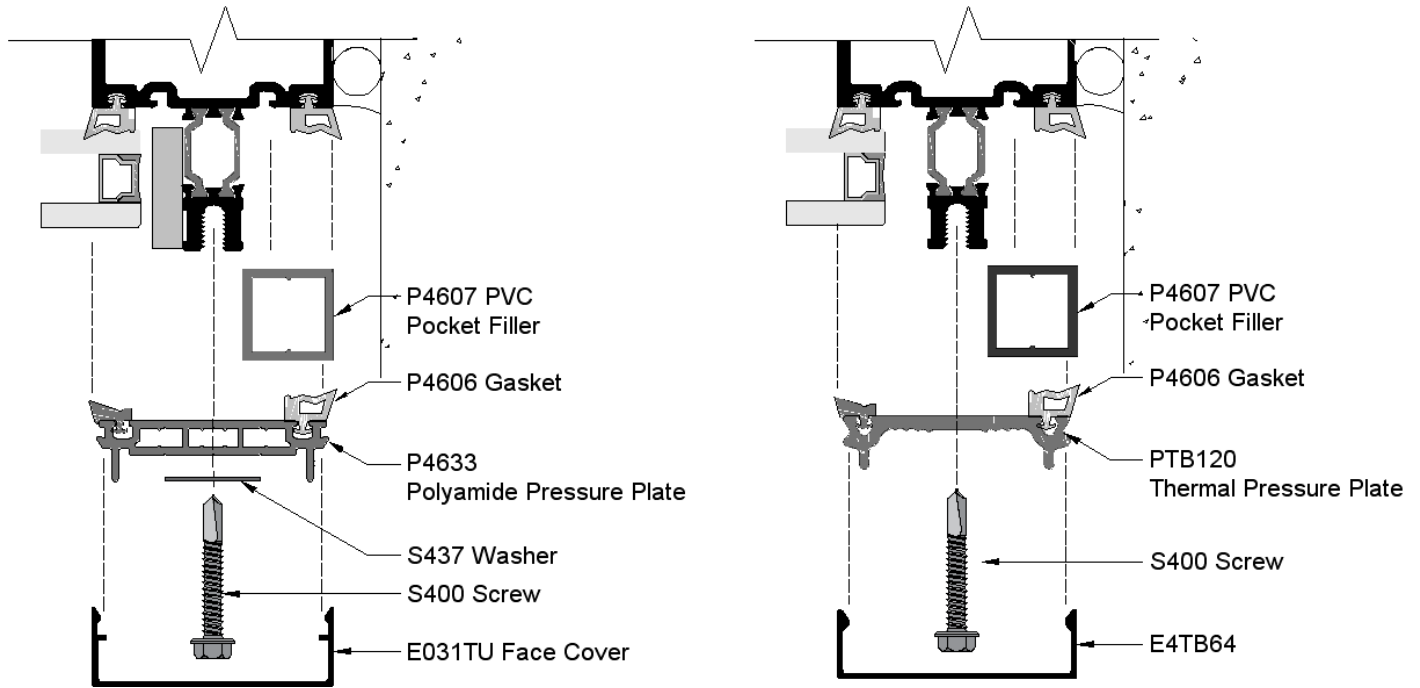
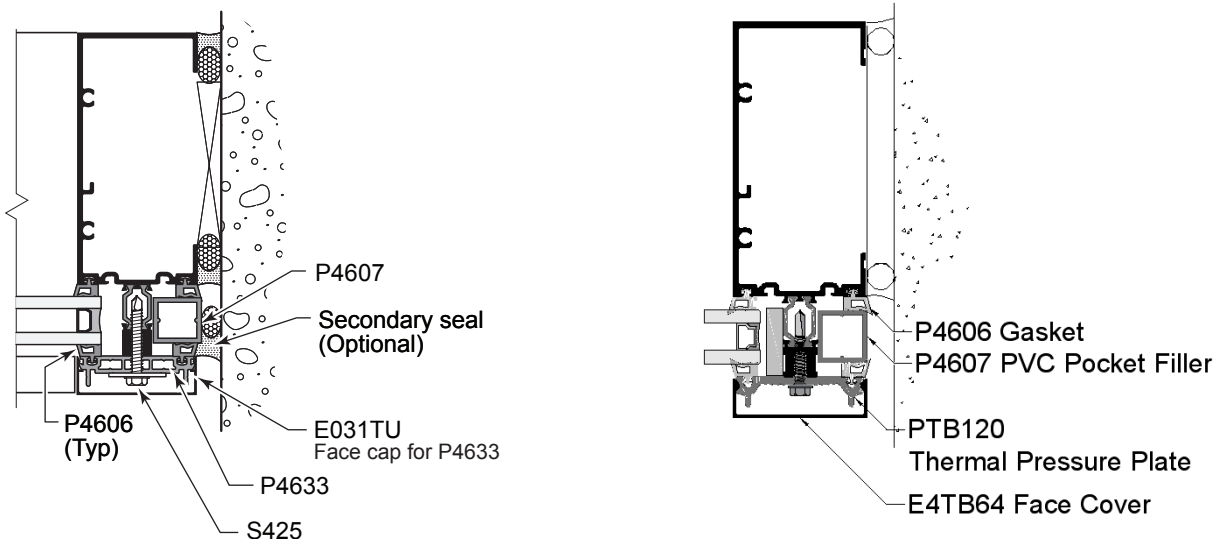

Fig. 37.1
Fig. 37.2
- F. When P4633 polyamide or PTB120 thermal pressure plates are used, install P4607 pocket filler into perimeter members. See **Fig. 37.1** and **Fig. 37.2**. Do not overtorque polyamide pressure plate fasteners.